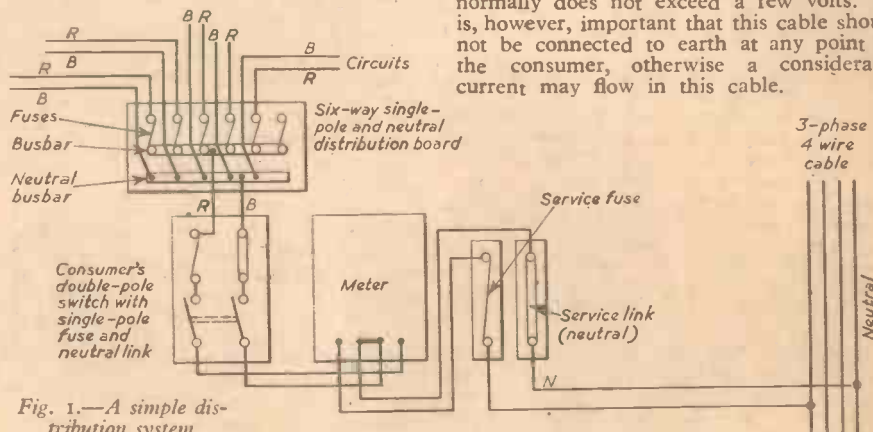
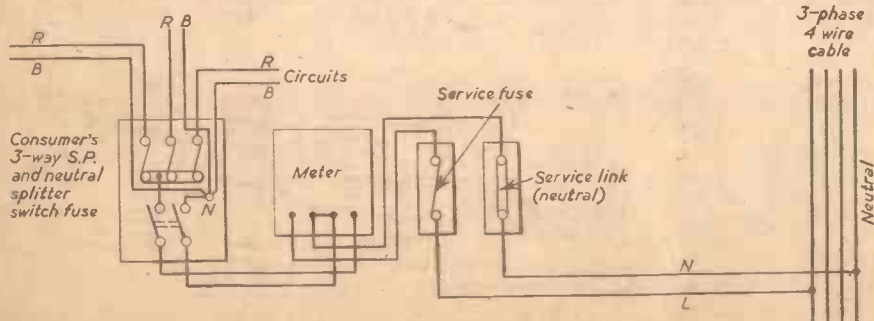
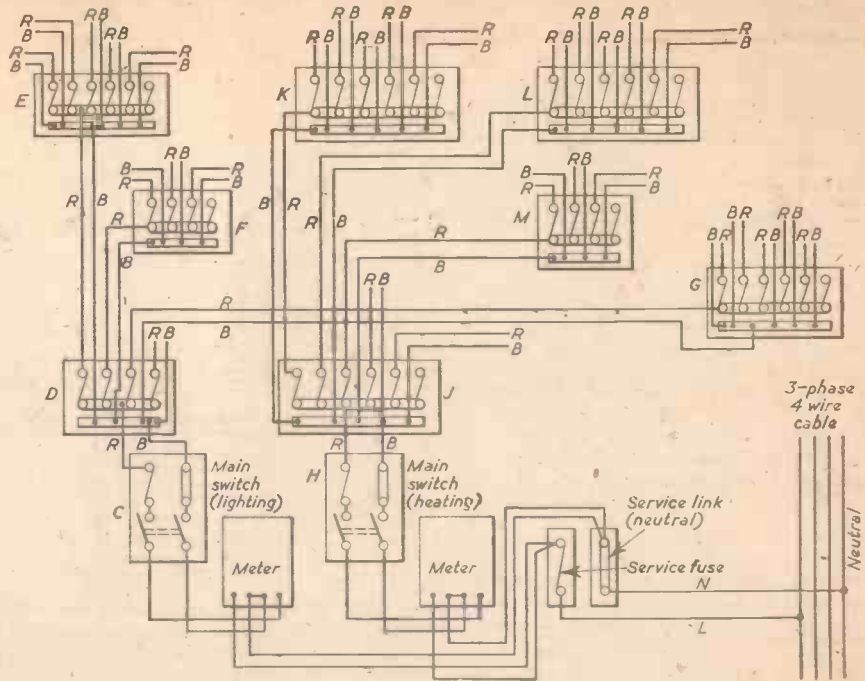

Fig. 1.—A simple distribution system.
Fig. 2.—Small layout with splitter switch fuse.
Fig. 3.—Large power and lighting distribution system.
One pole of the supply to domestic premises is usually connected to a neutral cable of the distribution system, as shown in Figs. 1, 2 and 3, this cable being connected to earth at the generating station or transformer. The voltage between this neutral conductor and earth, or points connected to earth such as a water pipe, normally does not exceed a few volts. It is, however, important that this cable should not be connected to earth at any point by the consumer, otherwise a considerable current may flow in this cable.
The purpose of the consumer's main switch is to enable the installation to be isolated from the supply when required for testing or otherwise. This main switch may be connected to the consumer's main fuse, which may be combined in the switch as shown in Fig. 1; the function of this fuse is to cut off the supply in the event of a fault, particularly due to excess current resulting from failure of insulation of the cables between this fuse and the distribution fuse board, if such a board is fitted. In some cases the consumer's main fuse may be omitted. For instance the Supply Authority may consent to allow their service fuse to act also as the consumer's fuse. In other cases, where the total load is not more than 60 amps., the consumer's main switch may be a splitter switch fuse, i.e., a main switch which is combined with a distribution fuse board with fuses for up to eight circuits, each rated at not more than 30 amps. See Fig. 2.
be inserted in the connecting circuits between the busbars. In many installations the wiring is divided into two sections, one for lighting and the other for heating circuits, each with separate main switch and meter as shown in Fig. 3. Figs. 1 to 3 inclusive show the correct colours of the cables, red (R) conductors being connected to the "live" pole, whilst black (B) conductors are to be connected to the neutral pole. All single-pole switches or fuses should be connected in the R conductors, none should be connected in the B conductors.
In an extensive installation there may be additional distribution fuse boards fitted in convenient positions in the premises, each fuse board being fed either from the main switch or a separate way on the main distribution fuse board of higher rating (see Fig. 3). Alternatively, the busbars of two or more distribution fuse boards may be looped together to form a ring circuit, in which case fuses or disconnecting links may